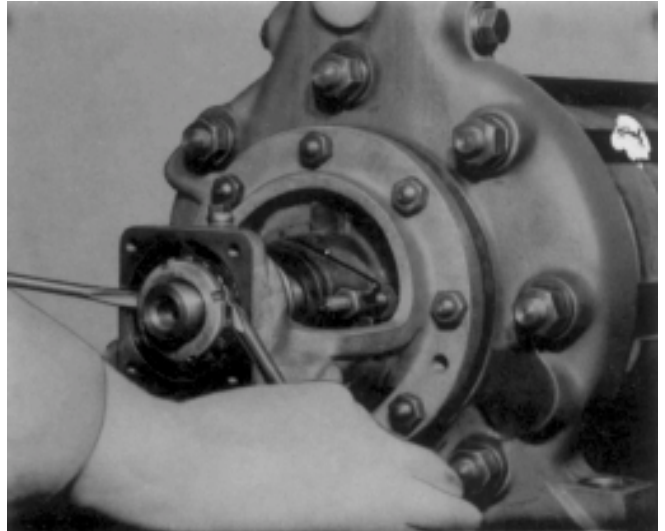

Fig. 29 Forcing out the inner components of the cylindrical roller bearing.
6. Pull out inner race of cylindrical roller bearing (322) together with adaptor sleeve (52.1) from bearing housing (350). (see Fig. 29 & 30)